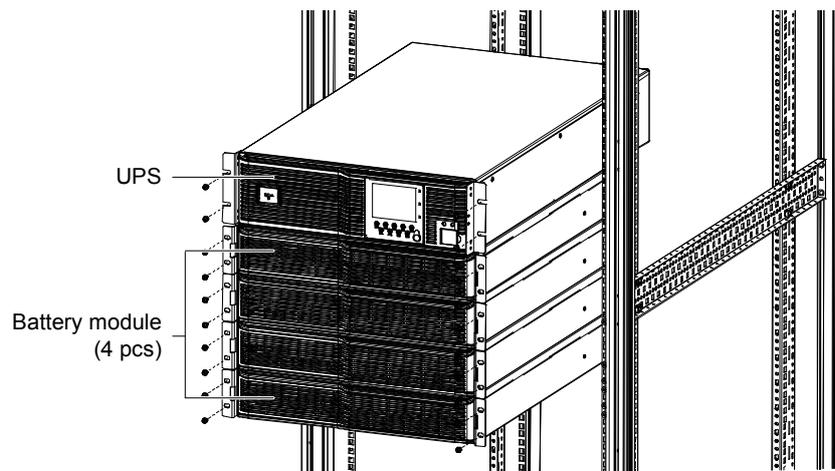

Figure 2-12 Installation of UPS with battery modules
The installation method of the battery module is the same as that of the UPS. Repeat the preceding procedures to install and fix the four battery modules and a UPS in the rack one by one, as shown in Figure 2-12.
- Install the battery modules first, start the installation from the bottom, and then place the UPS onto the top, as shown in Figure 2-12.